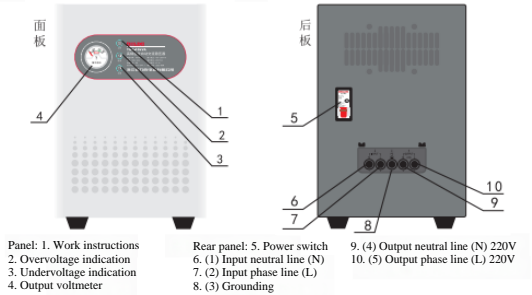

Fig. 9. Shape of TND-7kVA~10kVA stabilizer
3.3 The shape of TND-7kVA~10kVA stabilizer is shown in Figure 9